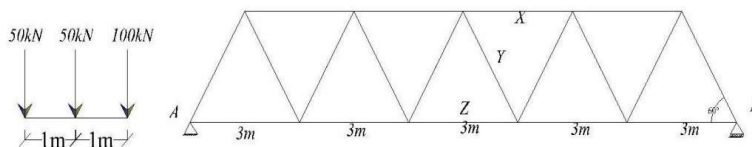

Fig. 9(b)
b. Draw the influence line diagram for members X, Y and Z of the truss shown in Fig 9 (b) . 10 (2 : 5 : 1.3.1)